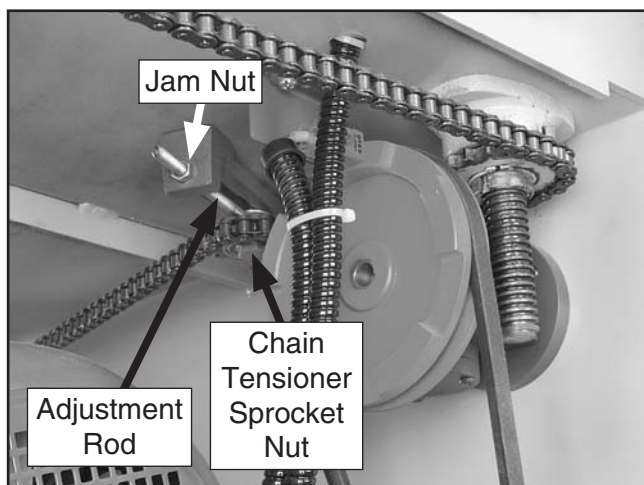

Figure 62. Table chain tensioner components.
8. Loosen the chain tensioner sprocket adjustment nut on the sprocket wheel shaft (**Figure 62**) and loosen the jam nut on the sprocket adjustment rod.